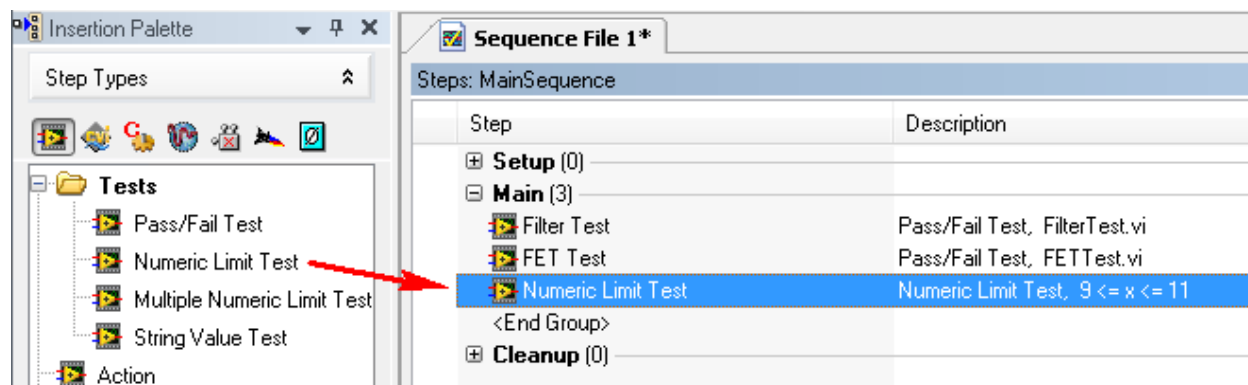

Figure 1-12. Addition of LED Test Step
- Drag the Numeric Limit Test from the **Insertion Palette** to the **MainSequence**, as shown in Figure 1-12.